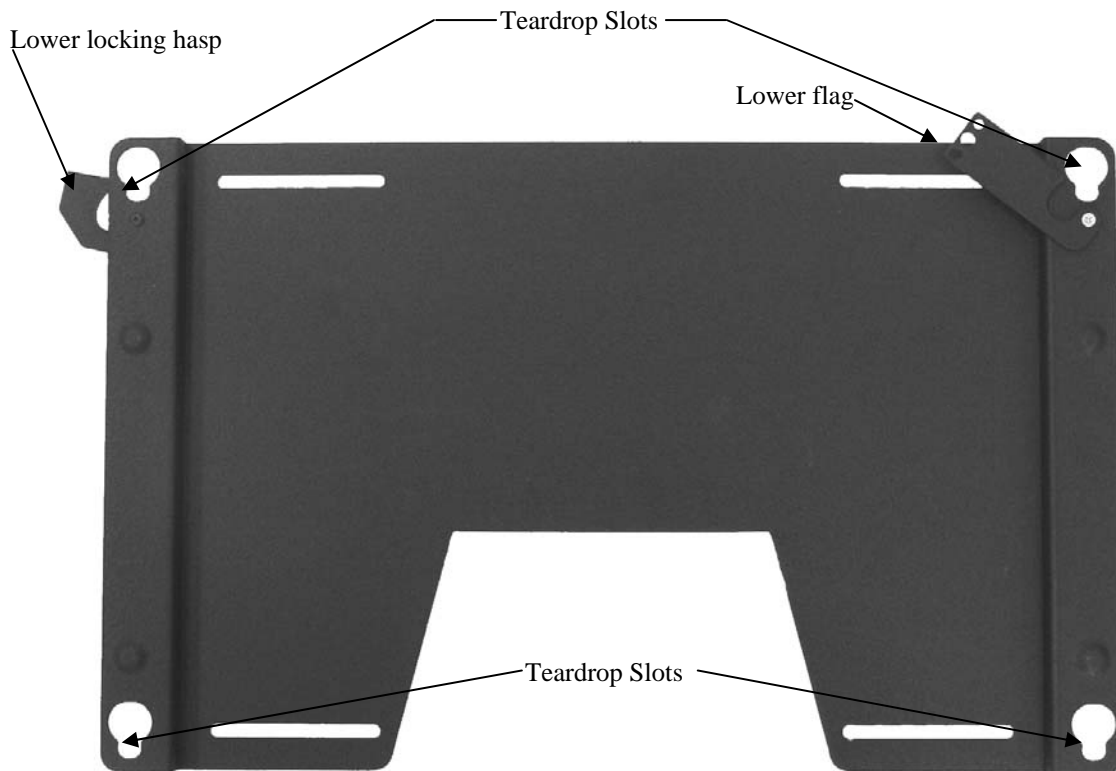

Figure 4
1. Attach latching flag to mount using 10-24 x .5 FH undercut screw, Nylon washer, and Nylock nut (see Figure 2 and Figure 4). Tighten until friction holds flag in place.
2. Attach latching locking hasp to mount using 10-24 x .5 button head hex screw, Nylon washer, and Nylock nut (see Figure 3 and Figure 4). Tighten until friction holds flag in place.
3. With the aid of another person, lift the plasma display up to the mount, align the mounting buttons on the flat panel display with the teardrop slots in the mount, and set the plasma into place (see Figure 4).